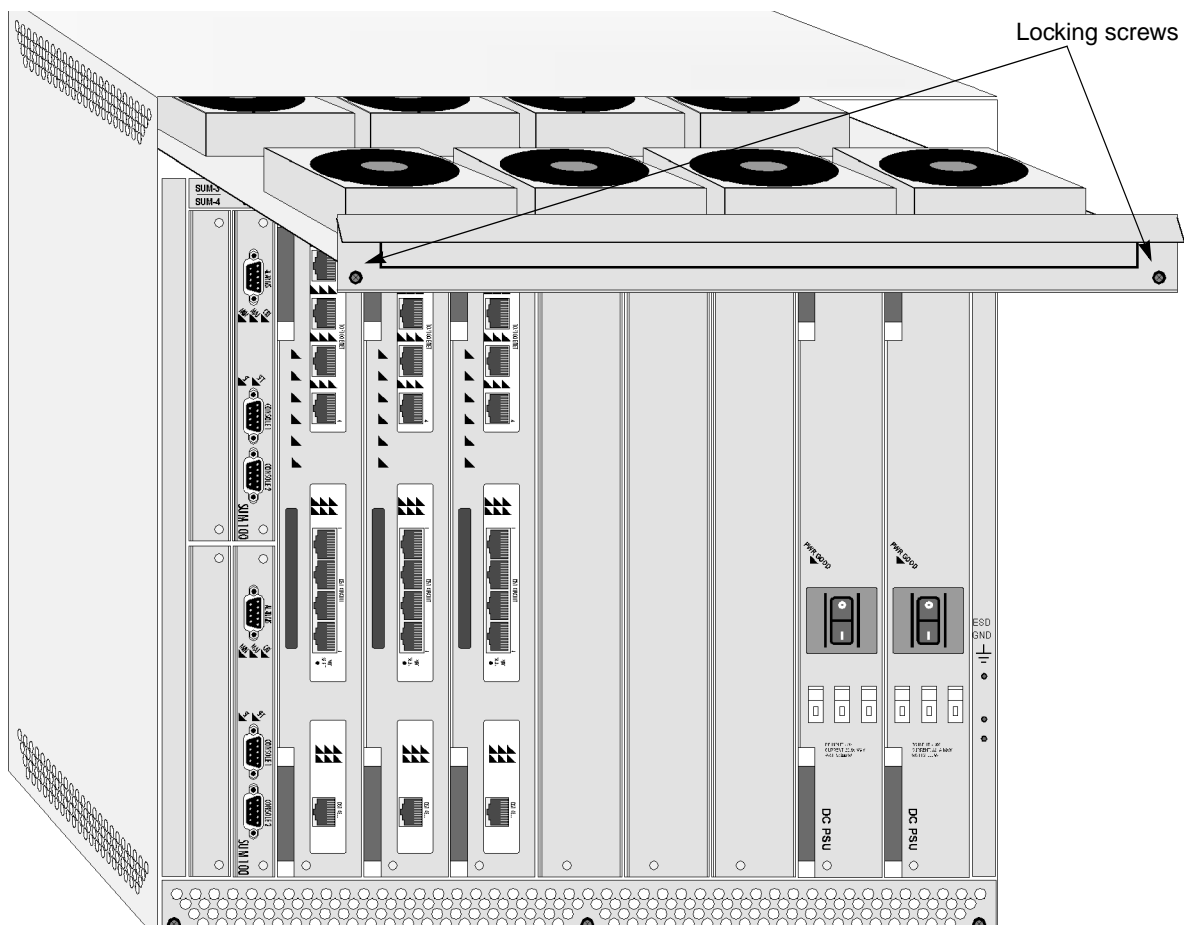

Figure 6-17. Removing the SA 1200 Fan Tray
1. Using a #1 Phillips screwdriver, loosen the locking screws at the corners of the fan tray (see Figure 6-17 for screw locations).
2. Grasp the handle of the fan tray and pull it away from the unit, as shown in Figure 6-17. The fan tray will disengage from the chassis backplane.
1. Place the edges fan tray in the guides and gently push the fan tray into the chassis, reversing the procedure shown in **Figure 6-17**. A little additional pressure may be required to engage the fan tray with the chassis backplane; however, do not force the fan tray into the backplane. If it is not engaging with a moderate amount of pressure, remove the fan tray and reseal it in its guides.
2. Using a #1 Phillips screwdriver, tighten the locking screws at the corners of the fan tray (see **Figure 6-17**).